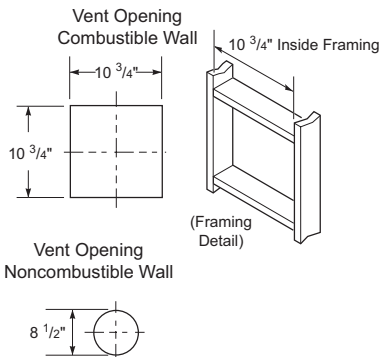

Figure 15 - Vent Opening Requirements
3. Attach vent pipe assembly to the fireplace using twist lock connections. Set fireplace in front of its permanent location to insure minimum clearances. Mark the wall for a 10 3/4" square hole (for noncombustible material such as masonry block or concrete, a 8 1/2" diameter hole is acceptable). See Figure 15. The center of the hole should line up with the centerline of the rigid vent pipe. Cut a 10 3/4" x 10 3/4" square hole through combustible exterior wall (8 1/2" diameter hole if noncombustible). Frame as necessary.
3. Cut a hole in the roof using the locating hole as a center point. (Cover any exposed open vent pipes before cutting hole in roof.) The $10 \frac{3}{4}'' \times 10 \frac{3}{4}''$ hole must be measured on the horizontal; actual length may be larger depending on the pitch of the roof. There must be a 1" clearance from the vent pipe to combustible materials. Frame the opening as shown in Figure 15 on page 12.